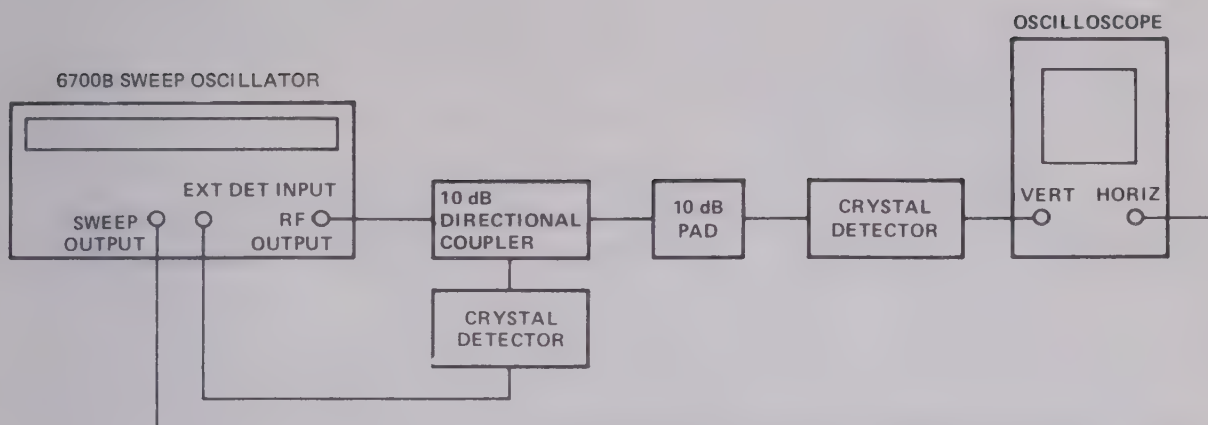

Fig. 6 External levelling measurement test set-up (1)
- (1) Connect equipment as shown in Fig. 6.
17. (1) Connect equipment as shown in Fig. 6.